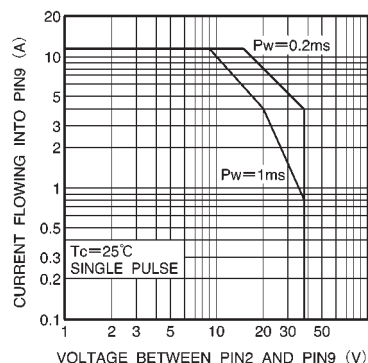

Fig.13 Safe operation range (ASO)
- (1) The output current should be reduced according to an increase in the input voltage or ambient temperature. Use the IC within the derating curve range.
- (2) Pins 5 and 7 are not used.
- (3) No circuit is installed in the IC to protect against excessive output currents. Take physical safety measures such as fusing if short-circuit loading is probable.
- (4) A large rush current may flow in the IC when the input voltage is applied or the output ON / OFF is controlled with pin 4 without a capacitor such as C1 in application 2. Comply with the safe operation ranges shown in Figs. 13, 16, and 19.